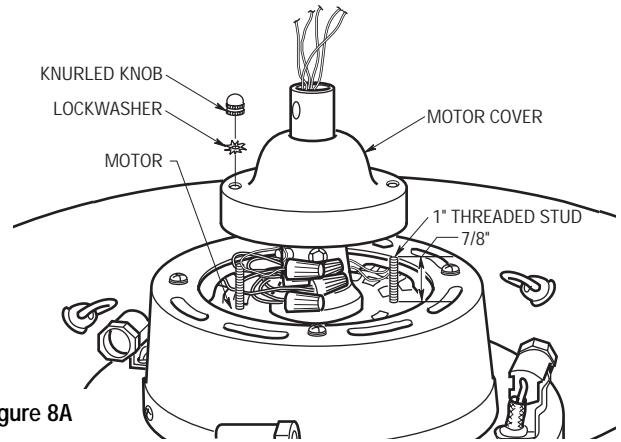

Figure 8A
- 14. Screw two 1" threaded studs (supplied) into the motor (Figure 8A). Leave approximately 7/8" of the stud extending above motor. Coil the wires and wire connectors around the motor coupling, then slide the motor cover over the downrod and rotate the cover until the threaded studs protrude. Install two lockwashers (supplied) and knurled knobs (supplied) to secure the cover to the motor. All wires and wire connectors must be enclosed under the motor cover.